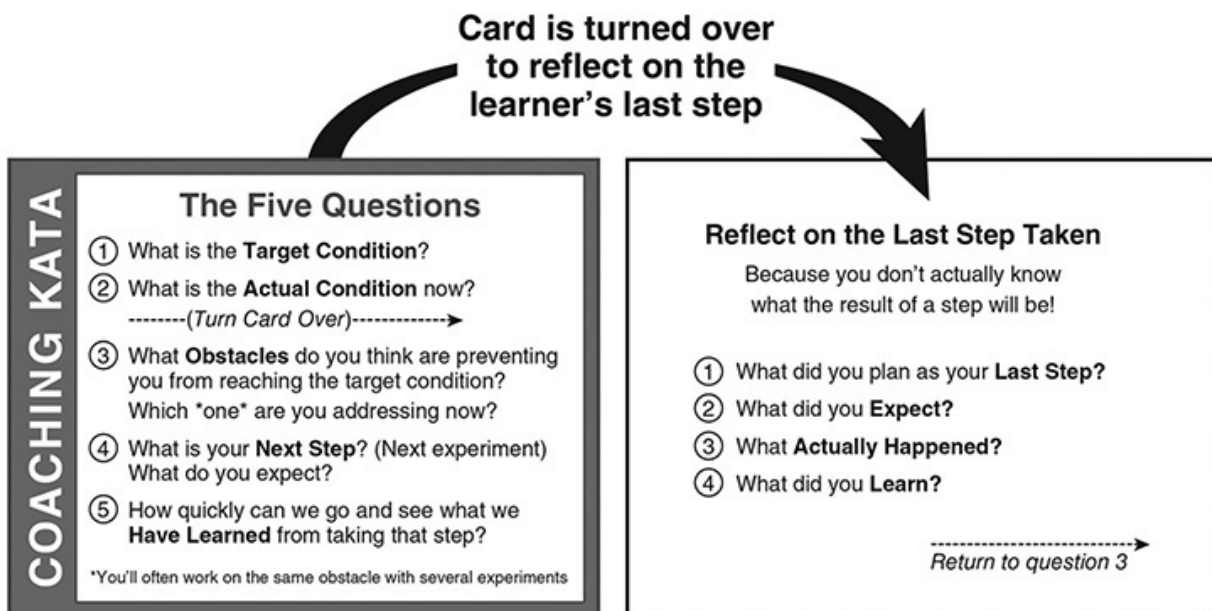

Figure 12.6 A starter kata for the coach.
It is recommended this be done in pairs—a learner with a coach. The learner is leading the project and often acts as the leader of a team. The coach meets regularly, ideally daily, with the learner. Rother also developed a coaching kata (CK) that helps get the coach engaged with a “five-question” starter kata (see Figure 12.6). The learner documents his or her IK process on a storyboard, which